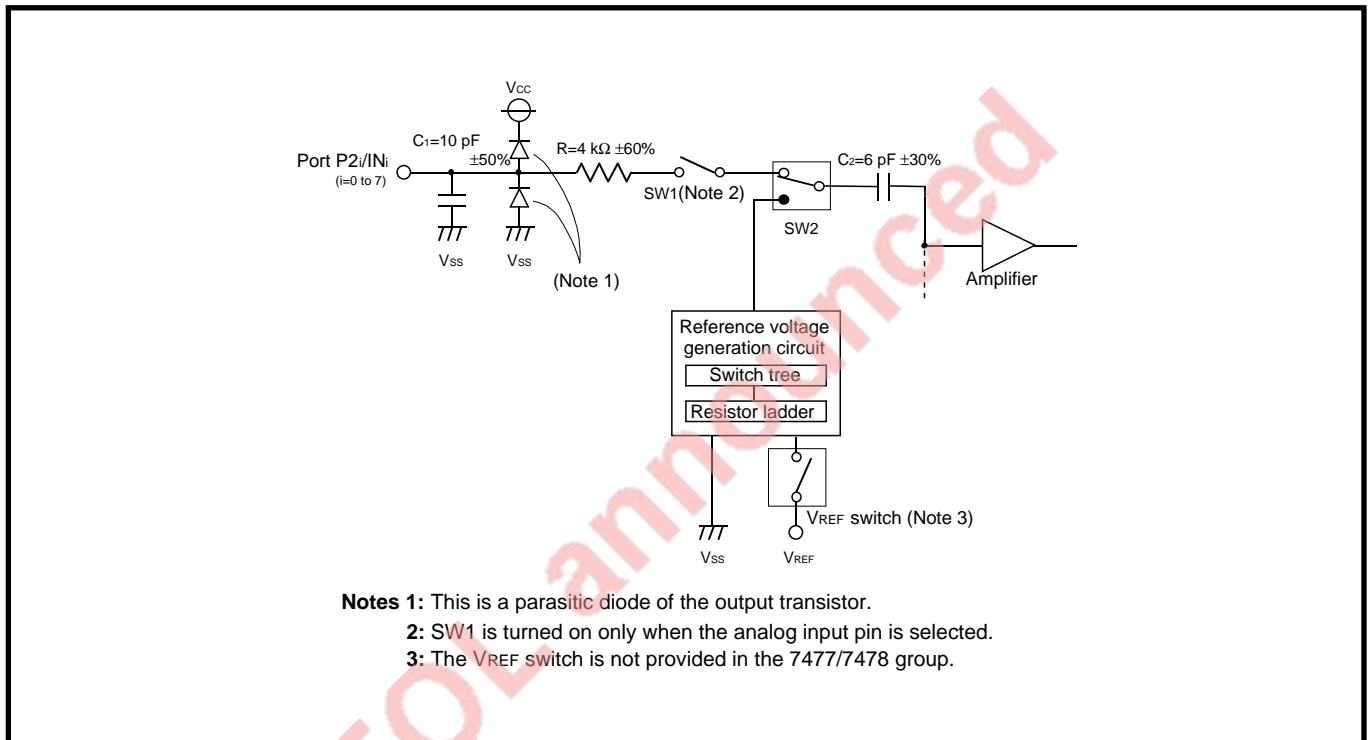

Fig. 2.5.3 Analog input internal equivalent circuit
■ The analog input internal equivalent circuit is shown in Figure 2.5.3. For correct A-D conversion, it is necessary that the internal capacitor should be completely charged within the specified time. The maximum value of output impedance of the analog input source required to terminate capacitor charging within this time is shown below.